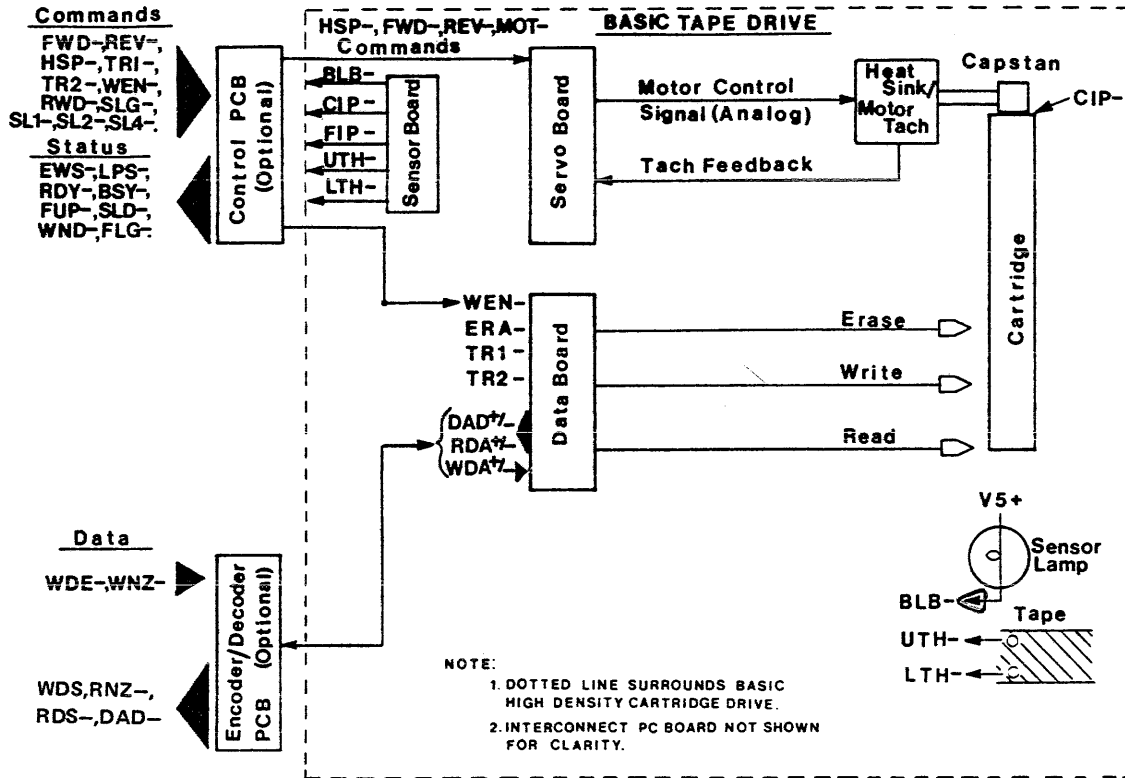

FIGURE 4-1. DRIVE BLOCK DIAGRAM
4.1 GENERAL (Refer to Figure 4-1)